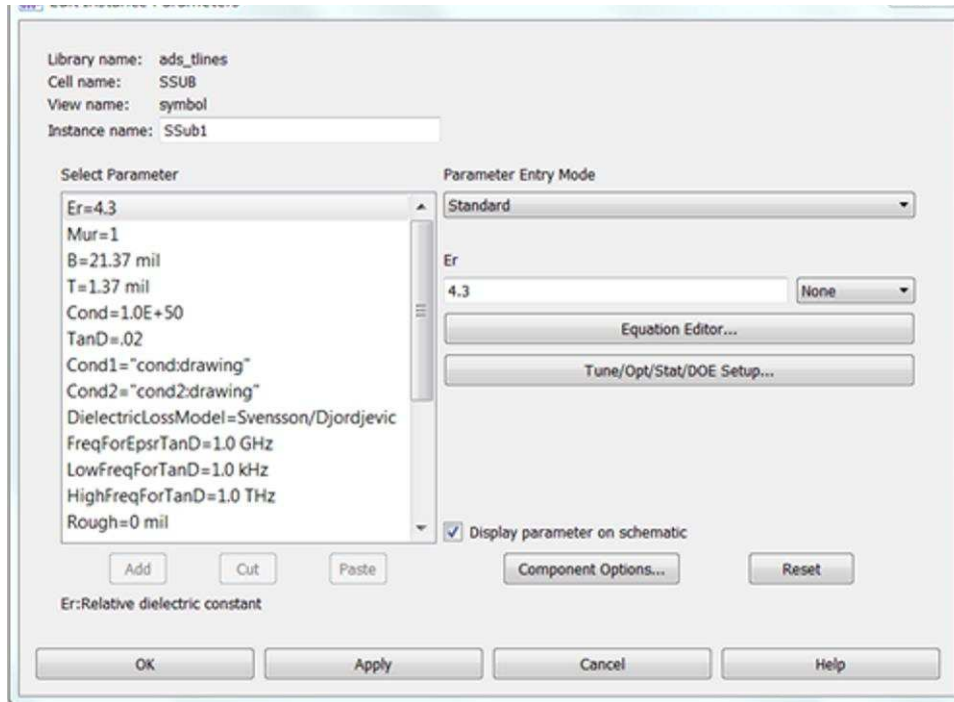

Figure 3. Stripline Substrate Configuration
16. Configure the transmission line substrate according to Figure 3.